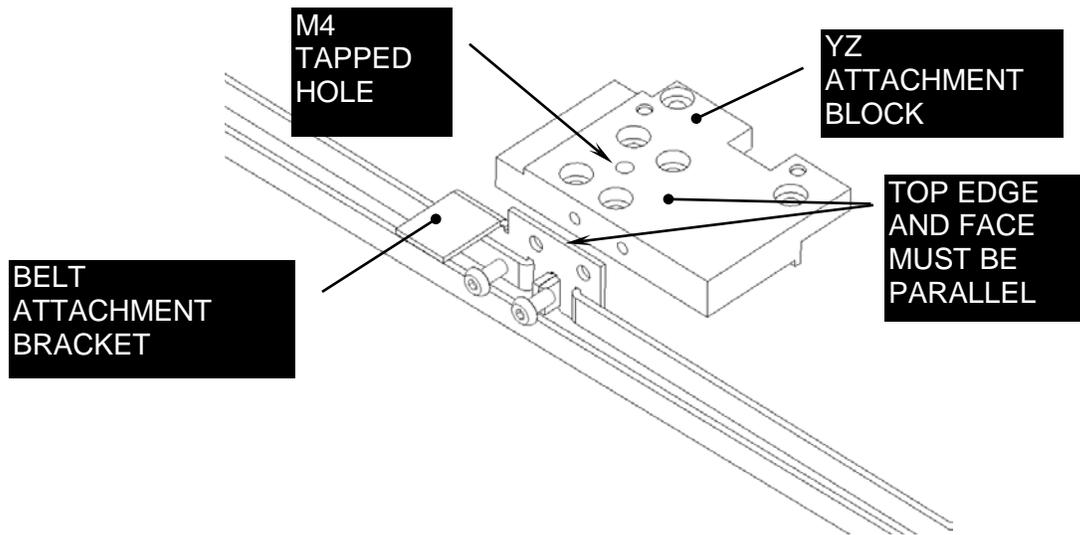

Figure 8-14: Removing Belt Attachment Block
2. Remove the Belt Attachment Bracket (Figure 8-14).